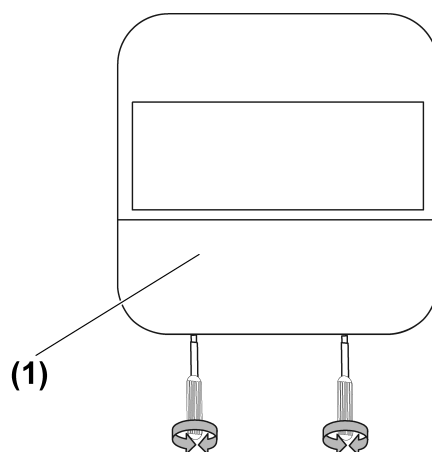

Figure 10: Dismounting the cover
- Removing the cover (1) (Figure 10).